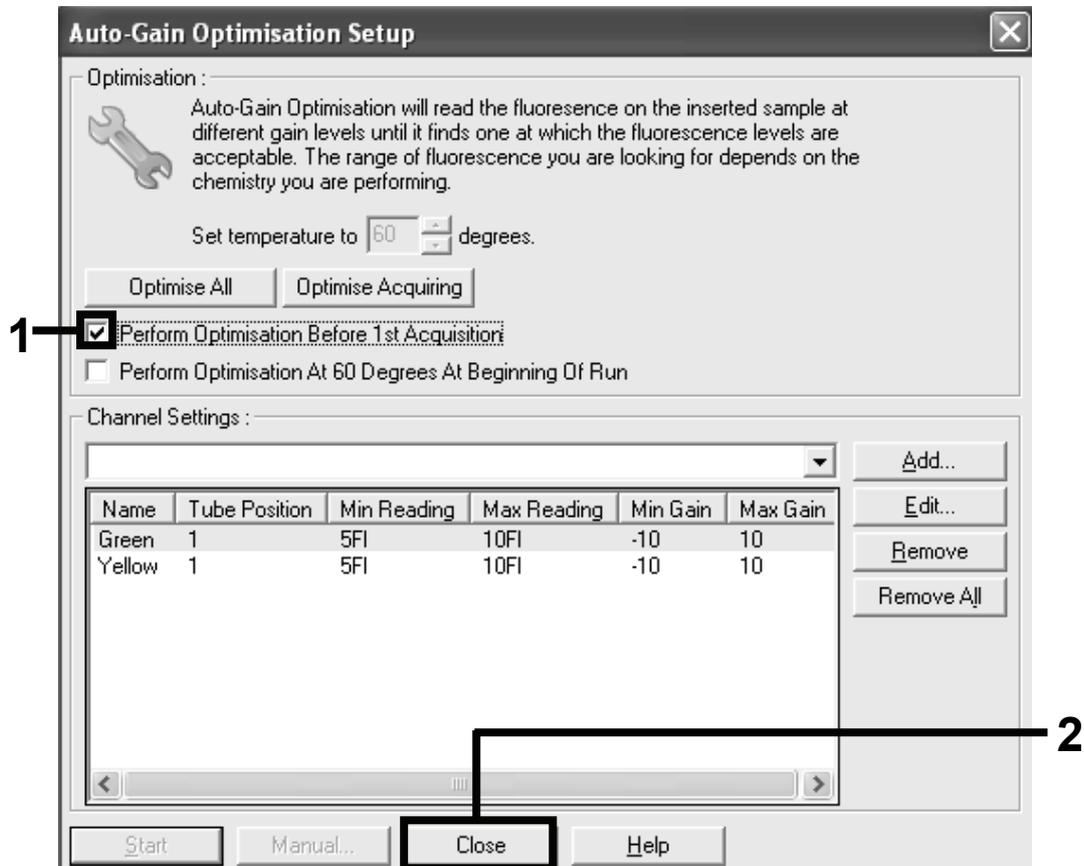

Figure 12. Selection of green and yellow channels.
19. Check the “Perform Optimisation before 1st Acquisition” box, then click the “Close” button to return to the wizard (Figure 12).